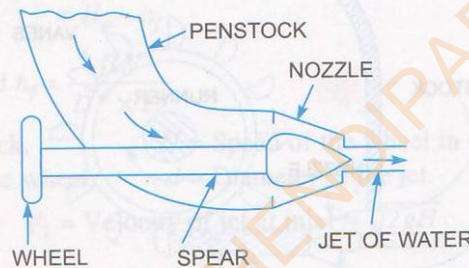

Fig. 18.2 Nozzle with a spear to regulate flow.
1. Nozzle and Flow Regulating Arrangement. The amount of water striking the buckets (vanes) of the runner is controlled by providing a spear in the nozzle as shown in Fig. 18.2. The spear is a conical needle which is operated either by a hand wheel or automatically in an axial direction depending upon the size of the unit. When the spear is pushed forward into the nozzle the amount of water striking the runner is reduced. On the other hand, if the spear is pushed back, the amount of water striking the runner increases.